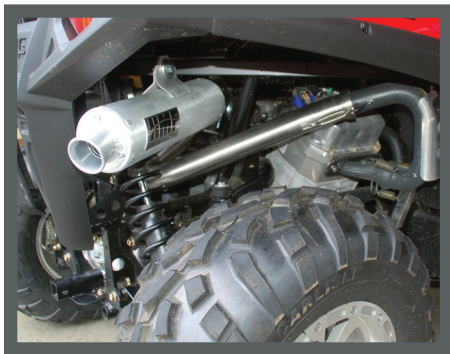

Figure 4
4. Install the **Long L-Shaped Pipe** using the supplied **Springs**. (see Figure 4)